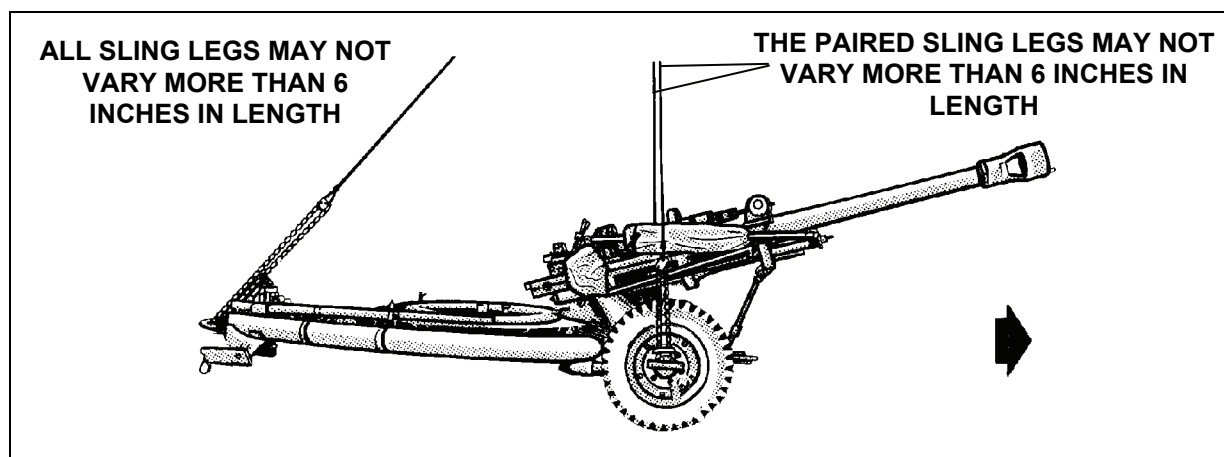

Figure 6-11. Load with Three Lift Points
- You may also use this method when hooking up a load with only three lift points (Figure 6-11). Route the extra chain leg through one of the hookup points and use the same